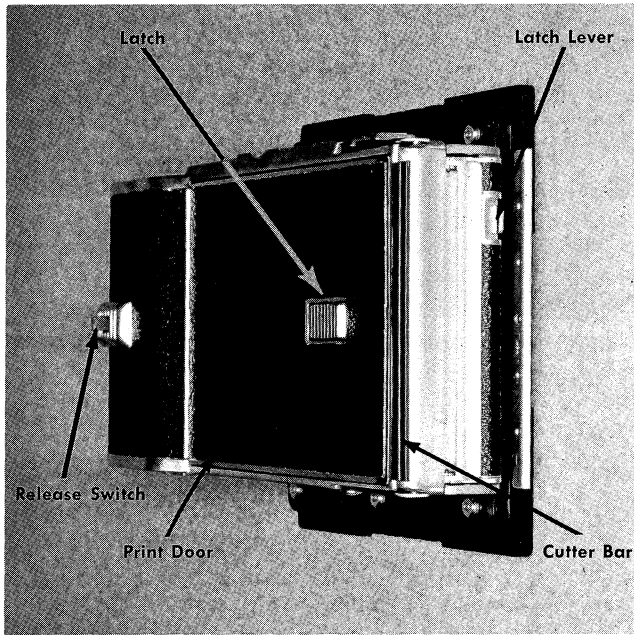

Fig. 2-11. The Polaroid Roll-Film Back.
**How to Load the Back.** The Polaroid Land Roll Film Back can be most easily loaded when the back is removed from the camera (however, film can also be loaded when the camera back is in place on the camera). For purposes of these instructions, it will be assumed that the back is removed (see Fig. 2-11).